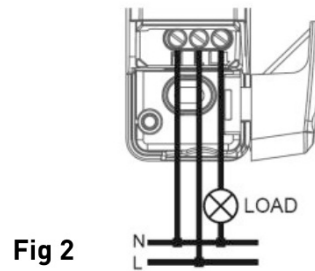

Fig 2
- Ensuring correct polarity is observed, terminate mains cable Live (brown), Neutral (blue) and L↓(load live) into the power module (see Fig 2)